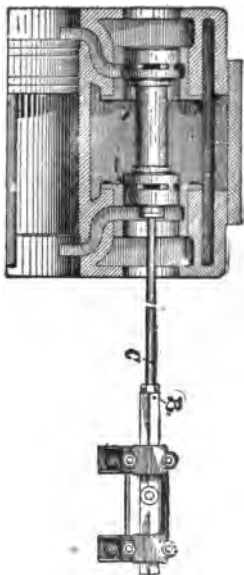

FIG. 92. ARMINGTON & SIMS VALVE.
A. If the distance between *B* and *C* (see Fig. 92) is just three inches, you will know that the valve is all right. If, however, you wish to put in a new valve and adjust, then remove the steam-chest cover and place the engine on the centre as follows : place line marked *A*, which is on the crank pin side, with line on opposite side of rim